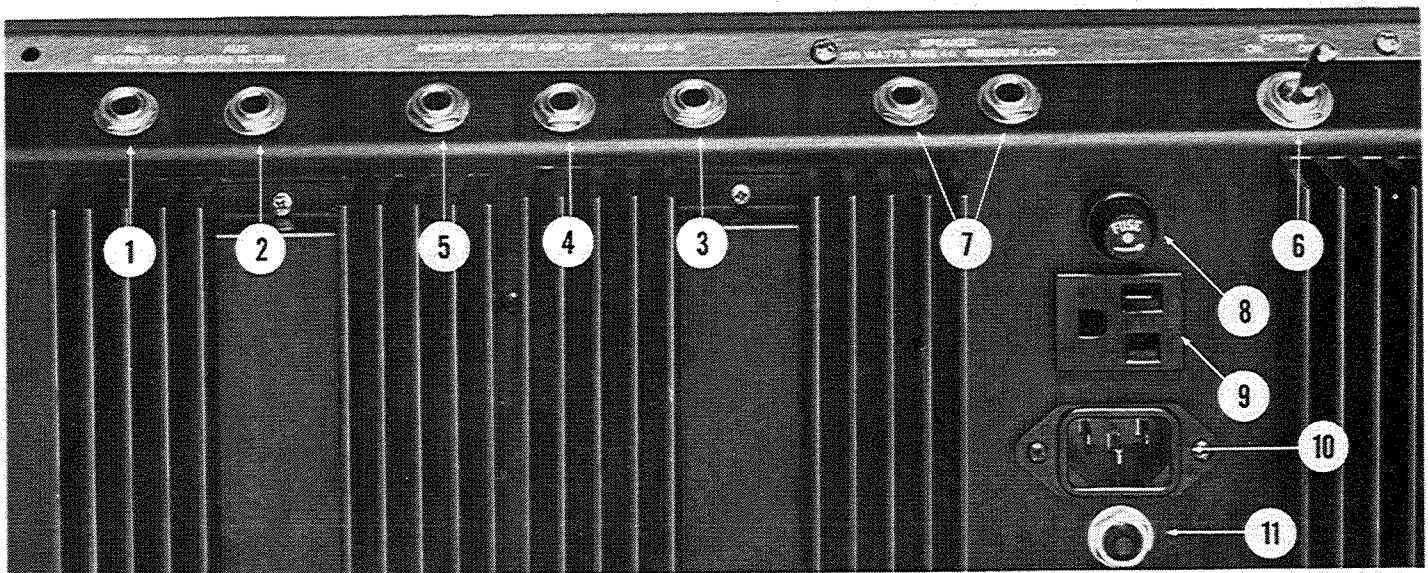

FIGURE 10 — Rear Panel
### Auxiliary Reverb Send (Fig. 10 - Item 1)
### Auxiliary Reverb Return (Fig. 10 - Item 2)
### Power Amp Input (Fig. 10 - Item 3)
### Pre-Amp Output (Fig. 10 - Item 4)
### Monitor (Pre-Amp) Output (Fig. 10 - Item 5)
### Power On/Off Switch (Fig. 10 - Item 6)
### Speaker Output (Fig. 10 - Item 7)
### Speaker Fuse (Fig. 10 - Item 8)
### Accessory AC Outlet (Fig. 10 - Item 9)
### Line Cord Receptacle (Fig. 10 - Item 10)
### Circuit Breaker (Fig. 10 - Item 11)
Remove the 120 VAC power cord from the inside of the Mixer cabinet top and plug it into the AC socket in the rear of the Mixer (Fig. 10 - Item 10). An accessory AC outlet (Fig. 10 - Item 9) is provided directly above the power cord socket. DO NOT remove the grounding prong of the AC plug — it prevents hum and possible electric shock. If necessary, use a three-prong to two-prong adapter.
6. Turn the power switch on (Fig. 10 - Item 6). If the VU Meter does not light up, check the power cord connections and the circuit breaker. If it lights up but no sound comes from the speakers, check the speaker cable connections and the speaker fuse on the rear of the Mixer (Fig. 10 - Item 8).
If the MA6 is to be used as an expander with another Master unit, the Pre-Amp Out jack (Fig. 10 - Item 4) and the Monitor Out jack (Fig. 10 - Item 5) should be connected to the Master unit. Use the Master section controls of the MA6 as Submasters.
### Monitor Out Jack (Fig. 10 - Item 5)
### Auxiliary Reverb Send and Return Jacks (Fig. 10 - Item 1 and 2)
Connect the Pre-Amp Output jack (Fig. 10 Item 4) to an electronic crossover. If the MA6 is to be used for bass, use bass speaker enclosures and connect the Pwr Amp In jack (Fig. 10 - Item 3) to the "low" output of the crossover, and connect the "high" output of
To record the main channel signal, connect the tape recorder to the Pre-Amp Output jack (Fig. 10 Item 4).